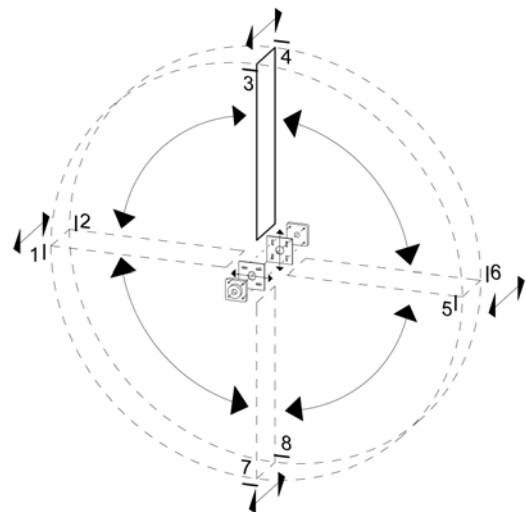

figure 5
- When controlling the correct installation of the rotor hub also check that the distances between the segment wall for aligning and the 8 metal beams are nearly the same (figure 5 und 6).